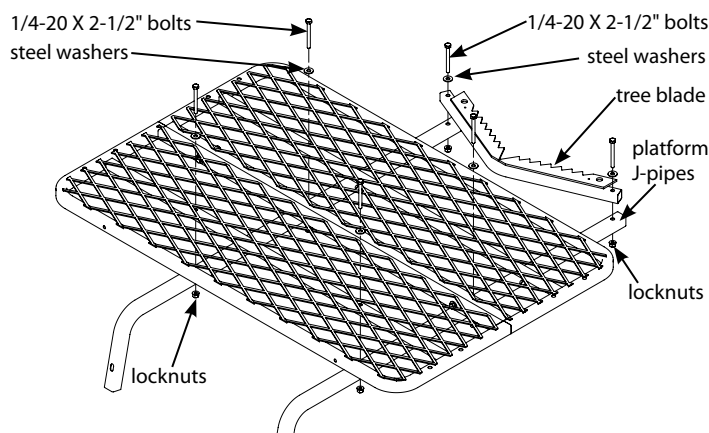

Figure 2
2. Attach the two platform J-pipes (10321) to the assembled platforms using (4) provided 1/4-20 x 2-1/2" bolts, locknuts and steel washers. **SEE FIGURE 2.**
3. Attach the tree blade (2ML130) to the platform J-pipes using (2) provided 1/4-20 x 2-1/2" bolts, locknuts and steel washers. **SEE FIGURE 2.**